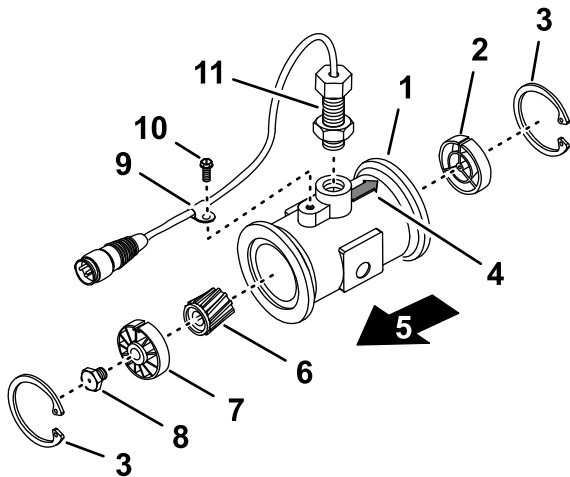

Figure 121
3. Remove the retainer ring on the upstream side (Figure 121).